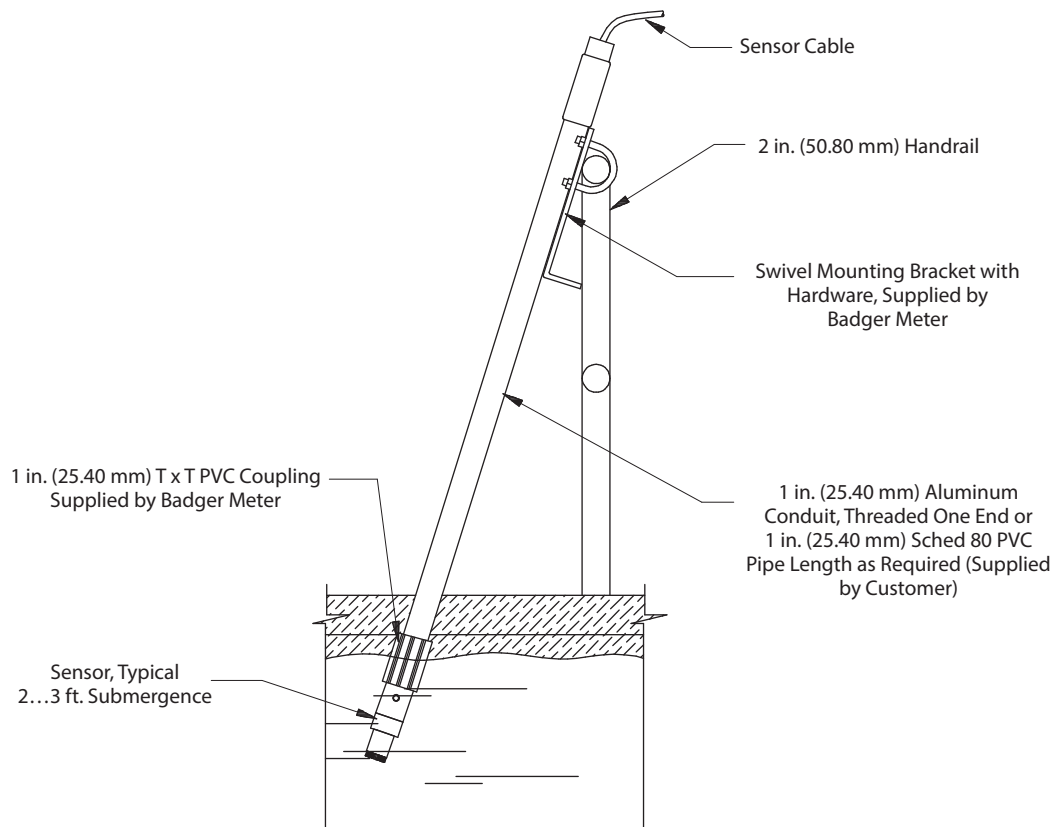

Figure 11: Submersible sensor mounting assembly
Submersible sensors are mounted to a 1 in. pipe using a standard 1 in. PVC thread by thread pipe coupling. The mounting pipe can be secured to standard 1-1/2 in. pipe rail using a mounting bracket kit (00-0628) available from Badger Meter. See Figure 11.
1. Use wiring practices that conform to all national, state and local electrical codes. For proper safety as well as stable measuring performance, it is important that the earth ground connection be made to a solid ground point from terminal 15 see Figure 11 on page 17.